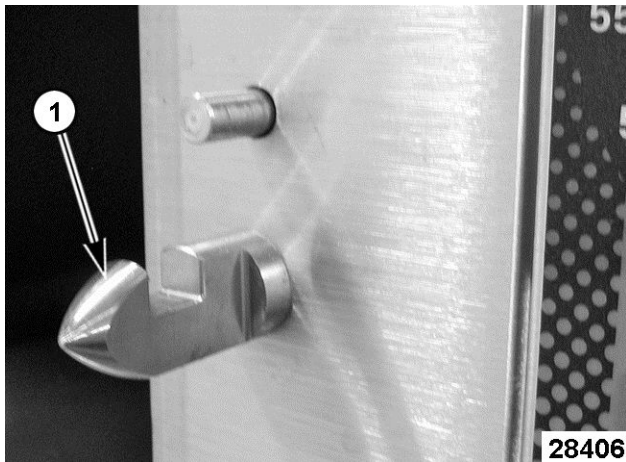

Fig. 23
- B. Locate the striker [1] Fig. 23 that catches on door latch beside front panel of steamer.